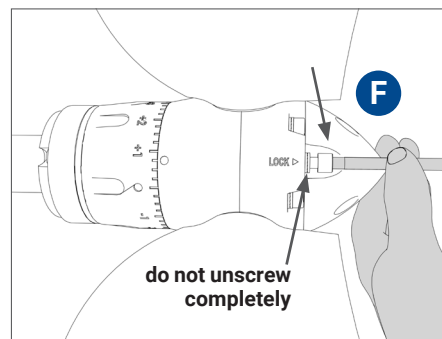

FIG. 24 Loosening of the set screw
- Unscrew the set screw (indicated with **F** in **Fig. 24**) by 5-6 turns; this will allow you to adjust the pitch without the risk of losing the screw in the water (important: at 10 turns, the screw comes completely out from the propeller with the risk of losing it).